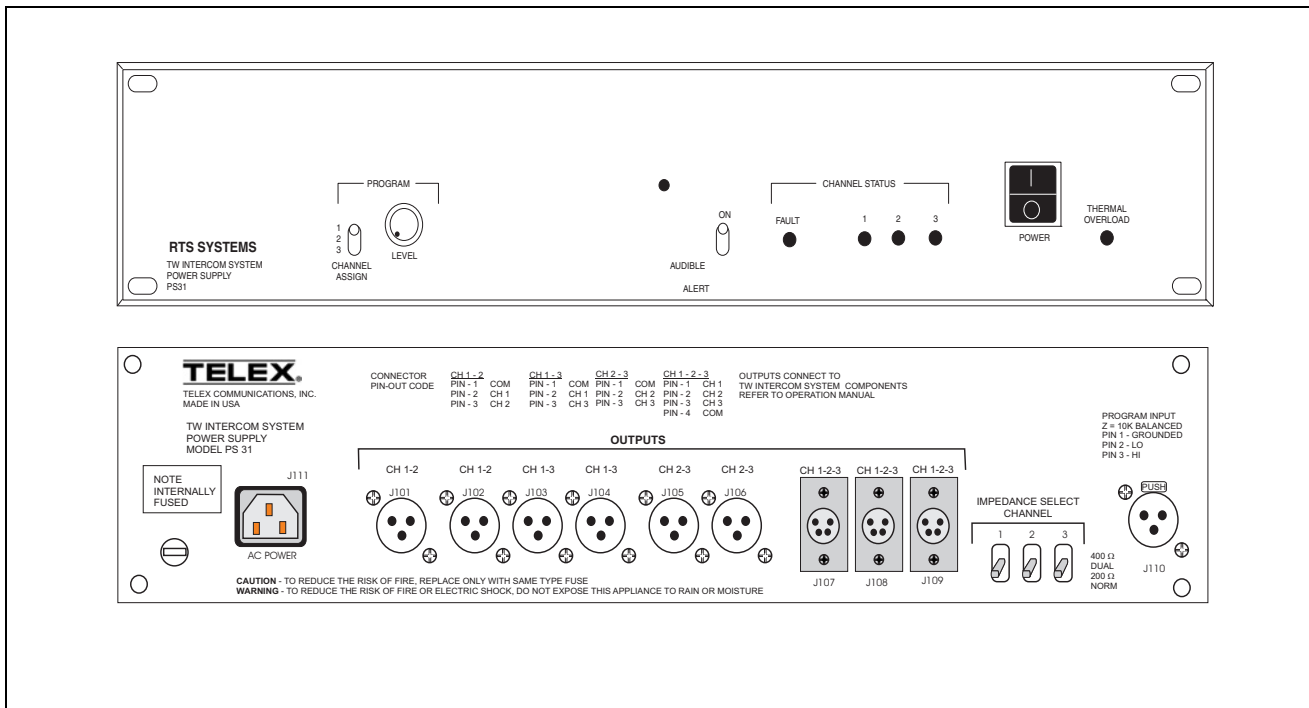

FIGURE 1. PS-31 Front and Back View
**NOTE:** When connecting intercom stations, do not exceed the power supply capacity, either for one channel or for all three channels. Power supply capacity is graphically illustrated in Figure 1. If more capacity is required, refer to “PS 31 Capacity” on page 4.
The IMPEDANCE SELECT switches on the rear panel allow each channel to be set for 200 ohm or 400 ohm operation. Select 200<F128M>W<F255D> NORM for each channel operated independently. Select 400<F128M>W<F255D> DUAL for each channel connected to another channel through the AUDIO ONLY connector (J109). Figure 1, “PS-31 Front and Back View,” on page 2